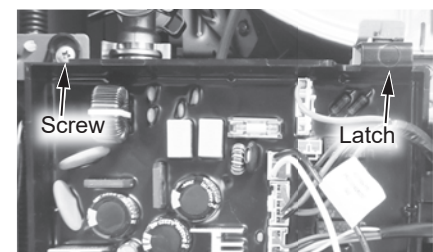

Figure 162 - Control board panel location
- 15 Locate the screw securing the control board panel. Use a Phillips screwdriver to remove the screw and place it aside in a safe place for reinstallation. See Figure 162.